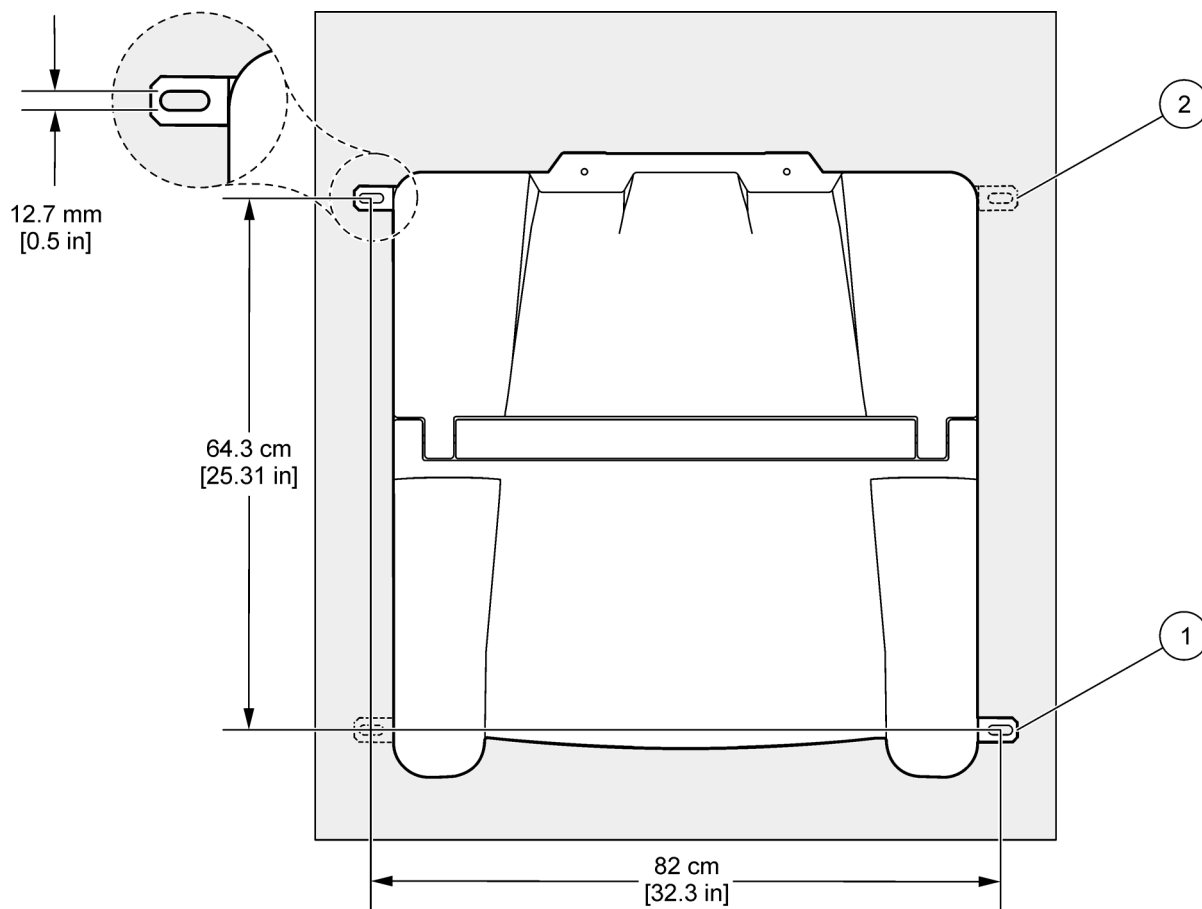

Figure 9 AWRS Anchor bracket locations with mounting dimensions
- Secure the AWRS cabinet to its mounting surface using the two anchor brackets provided and the customer supplied hardware. The instrument comes with two anchor brackets already installed. An optional kit with two additional brackets (6613100) can be ordered if the user wishes to secure all four corners of the instrument. Refer to Figure 9.